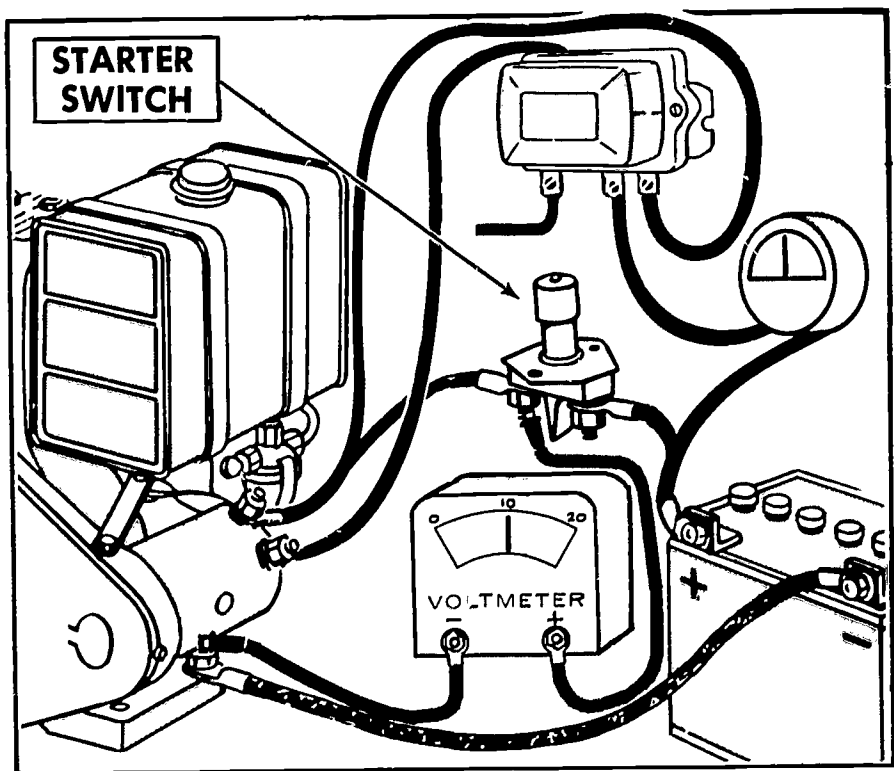

FIGURE 59. Checking the starter switch with a voltmeter.
3. Check the operation of the starter switch (Figure 59).
If you have **very little voltage or no voltage**, the starter switch is not closing the circuit properly. This would be true with either a plain switch as shown in Figure 59, or a solenoid switch (Figure 60).